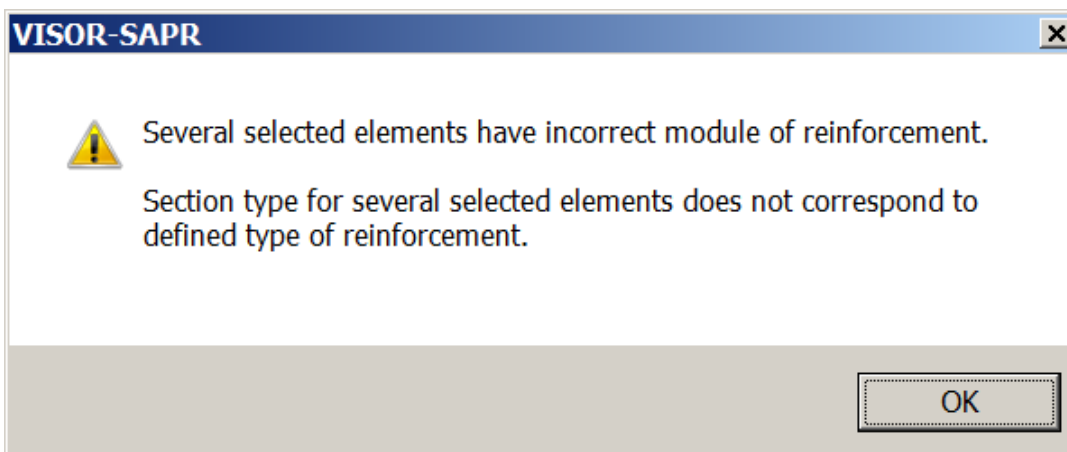

Figure 11.34 **Warning** dialog box
- ⇒ The **Warning** box is displayed (see Fig.11.34). Click **OK**.